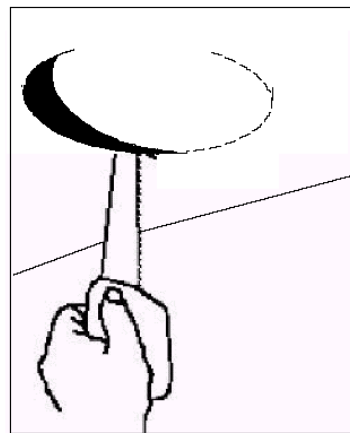

Figure 11
- 3) According the material of ceiling, choice the different tools to drill (reference to Figure 11)